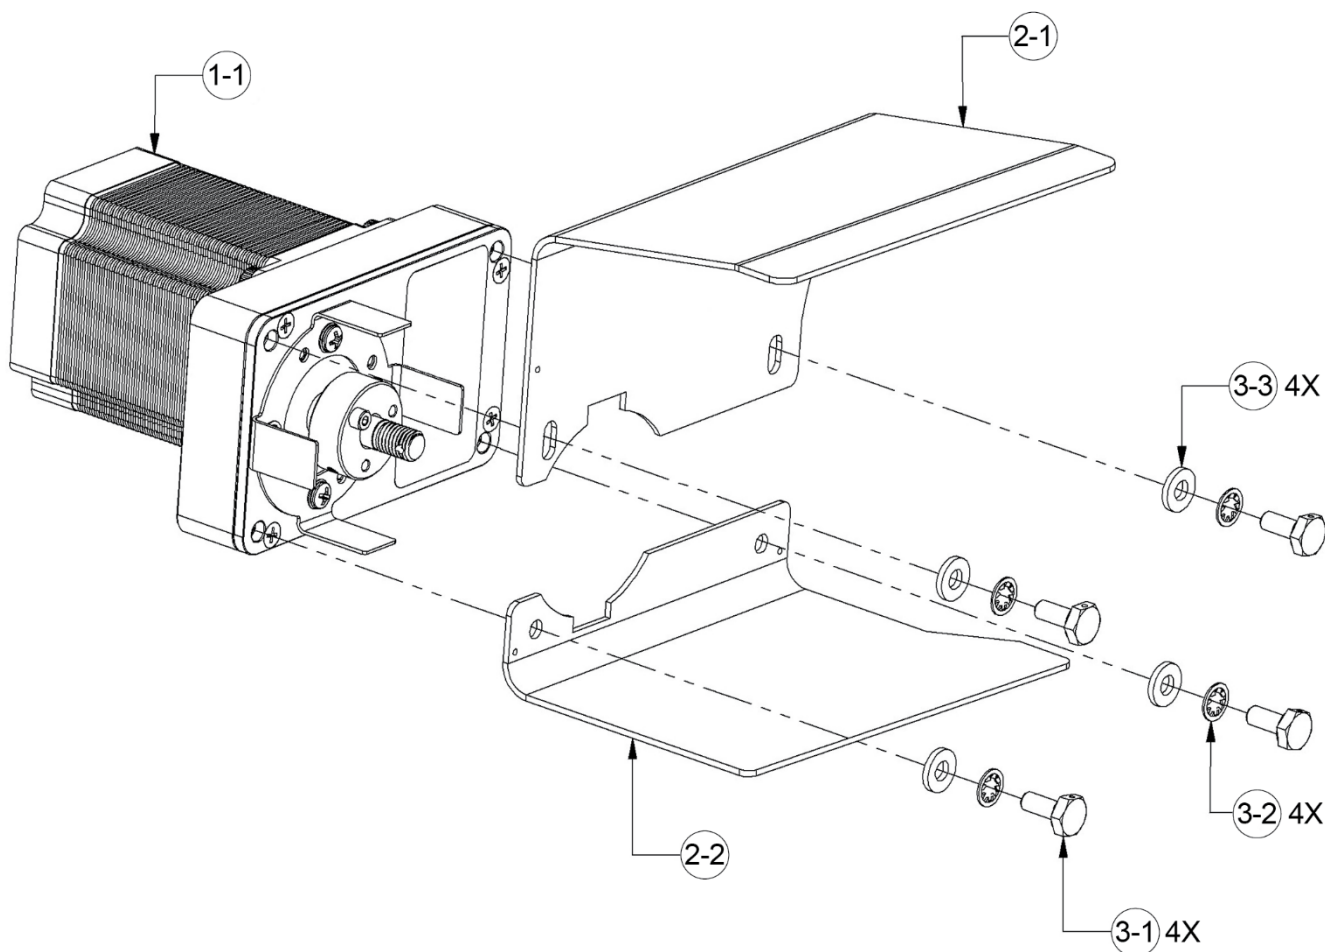

Figure 4: Attaching Upper and Lower Brackets to Roll Servo
2. Permanently attach roll servo to lower bracket (see Figure 4) and temporarily attach roll servo to upper bracket. Make sure upper bracket is in the lowest position allowed by slots in bracket.